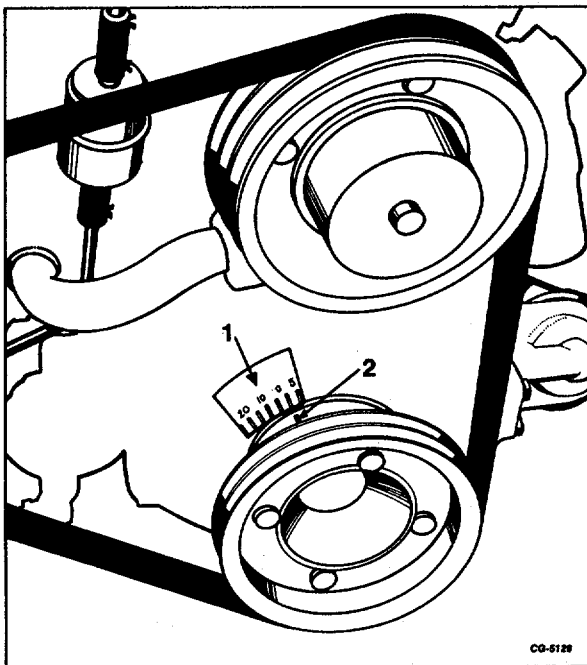

Fig. 46 Timing Marks (V-304, V-345, V-392 Engines Shown)
- Operate engine at idle speed and observe timing marks with timing light. Rotate distributor housing as needed to align timing mark on crankshaft pulley with specified initial timing mark on timing quadrant (Figure 46). When timing is correct; tighten distributor hold down bolt and recheck timing to be sure it did not change.